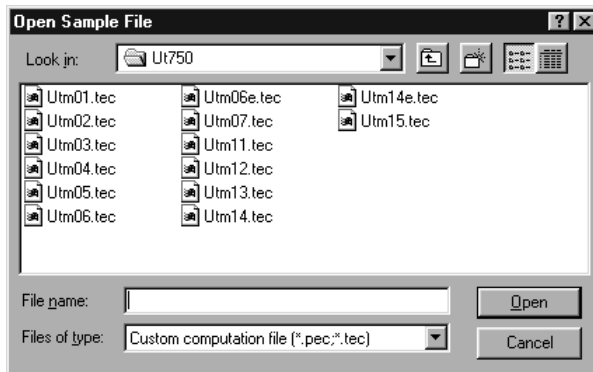

Figure 4.1.5 [Open Sample File] Dialog Box
- (2) If you are configuring a custom computation using a sample file, choose <Open Sample File>. Click the <Open Sample File> option button, and then the <OK> button. The [Open Sample File] dialog box (Figure 4.1.5) appears.
In the [New/Modification] dialog box, click the <Open Sample File> button, and then the <OK> button. The [Open Sample file] dialog box (Figure 4.1.5) appears.